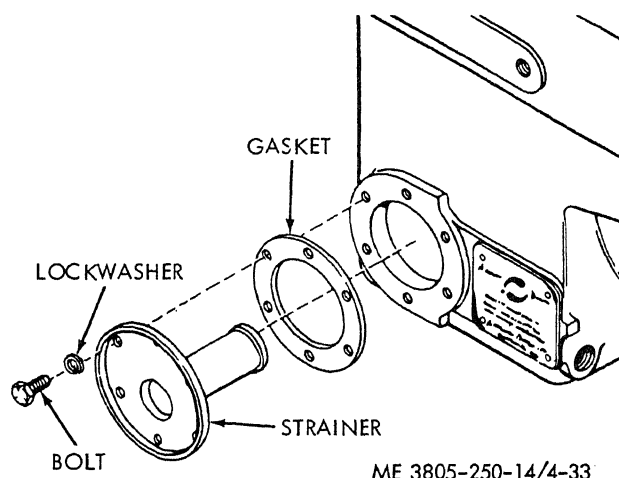

Figure 4-33. Transmission strainer service
(1) Start the engine and allow to run until the transmission temperature gage reads approximately 180° F. Stop the engine.
(2) Remove the drain plug (fig. 4-33) and allow the oil to drain from the transmission.
(3) Service the transmission oil filter (subpara e).
(4) Remove screws and lockwashers securing the strainer to the transmission housing. Discard the gasket.
(5) Clean the strainer in solvent and dry with compressed air.
(6) Install the strainer and new gasket on the transmission housing. Check that the inside end of the strainer slips over the end of the oil pickup tube in the sump.
(7) Fill the transmission with oil (subpara d).